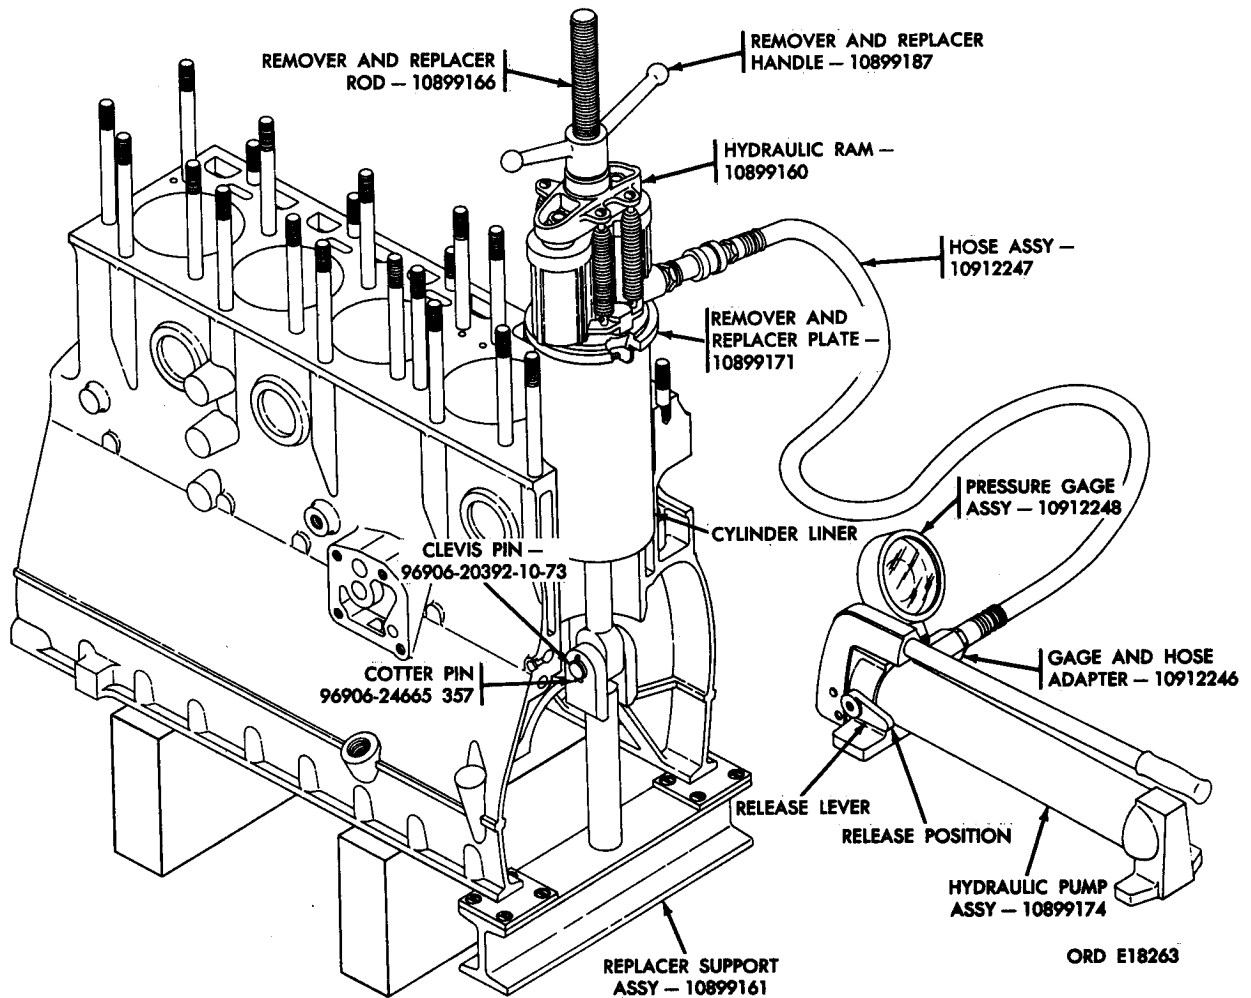

FIGURE 332. CYLINDER SLEEVE REMOVER AND REPLACER KIT - 8722925 AND RAM KIT - 10912249 SHOWING PROPER METHOD OF CYLINDER LINER INSTALLATION.
- (7) Remove hydraulic ram kit, remover and replacer kit, and liner.
- (8) Clean the cylinder bore with crocus cloth dipped in dry-cleaning solvent or mineral spirits paint thinner. Clean bore thoroughly and wash with dry-cleaning solvent or mineral spirits paint thinner.
c. Installation (fig. 332).
- (1) Place oil pan gasket surface of crankcase on suitable blocks. Position the replacer support - 10899161 under the cylinder bore requiring a new cylinder liner.
- (2) Remove cotter pin - 96906-24665-357, clevis pin - 96906-20392-10-73, and the remover shoe - 10899168 from remover and replacer rod - 10899166.